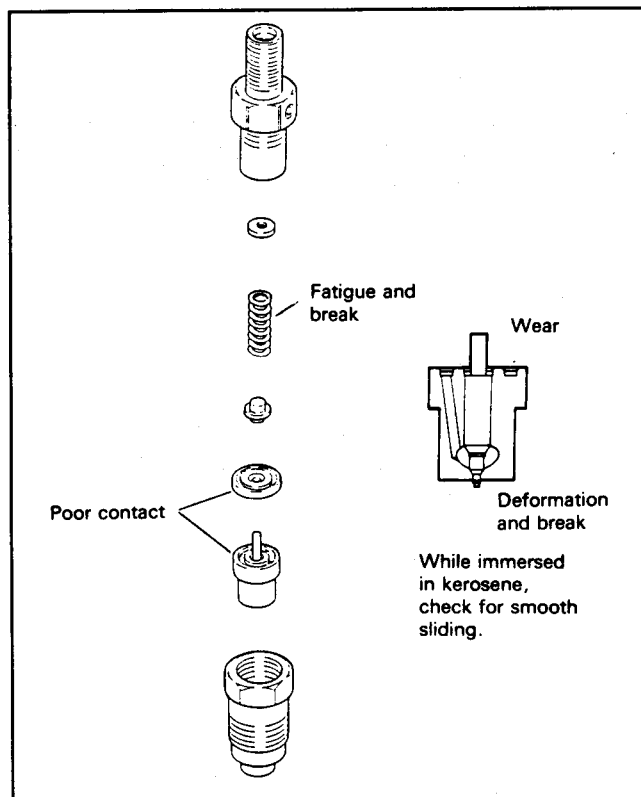

Figure 50
4. Inspect the removed parts (Fig. 50). Replace any worn or damaged parts.